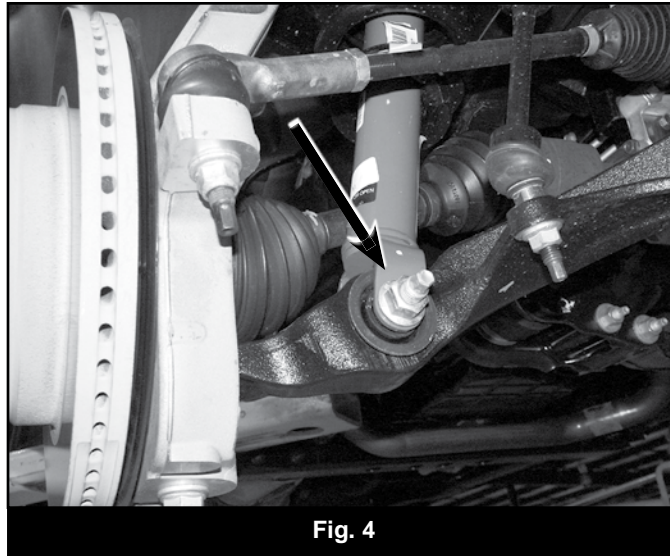

Fig. 4
24. Loosen the strut-to-lower control arm hardware (Fig 4). Remove the nut from the bolt and leave the bolt in place to temporarily retain the strut to the lower control arm. Retain the nut.